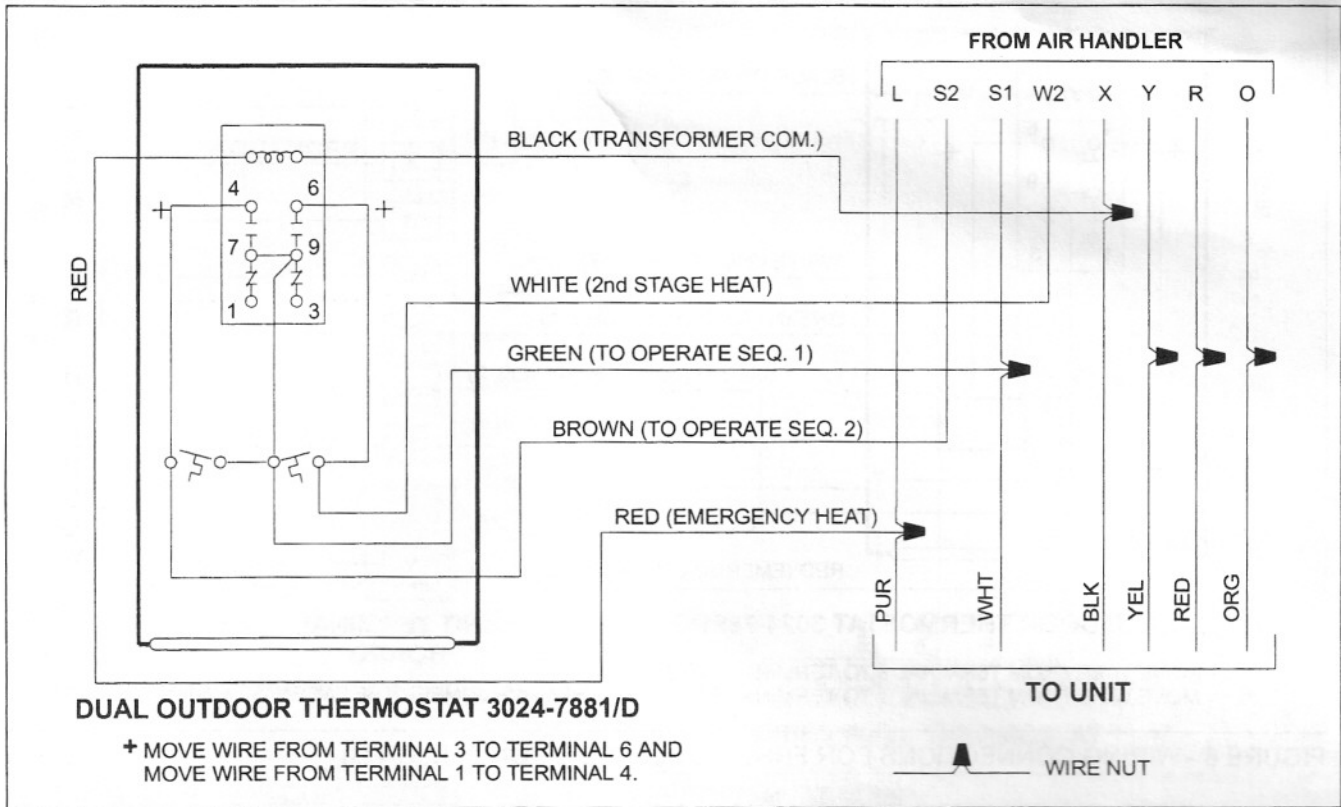

FIGURE 8 - WIRING CONNECTIONS FOR BRHS, DRHS SERIES (REVISION A, B, OR C)
Use Figures 8 (dual thermostat) or 9 (single thermostat) for applications with BRH(S,Q), DRH(S,Q), BH(Q), DH(Q) model series with a revision code of "A", "B", or "C" at the end of the model number.